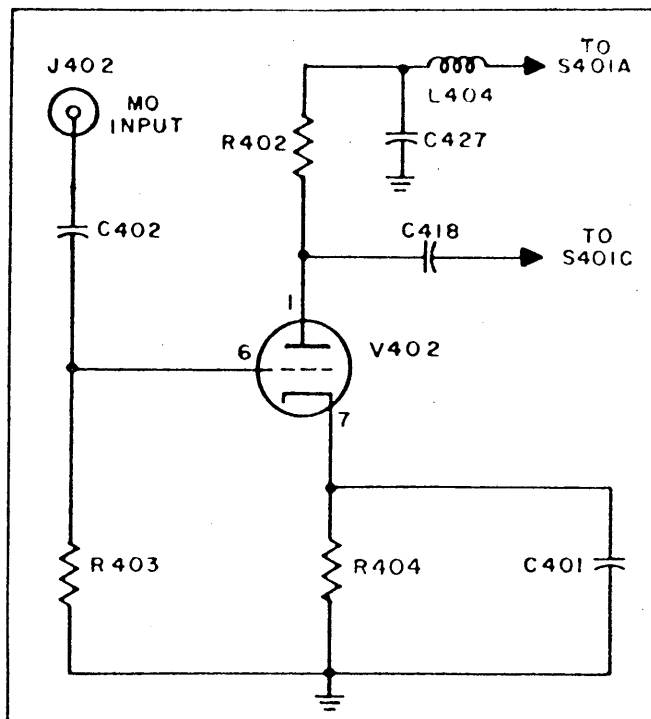

Figure 4-4. Buffer Stage, Simplified Schematic Diagram
(4) BUFFER. - Tube V402 is provided as a buffer at the output of the master oscillator circuit for additional isolation. (See figure 4-4.) Tube V402 is connected as a broadband amplifier. Coil L404 is used as a B+ filter with capacitor C427 as a B+ bypass. The output of V302B is applied through C402 to the grid. Cathode bias is developed by R406 and C401. The output from the plate is coupled through capacitor C418 to the input V403 through S401C when the switch is in the MO position